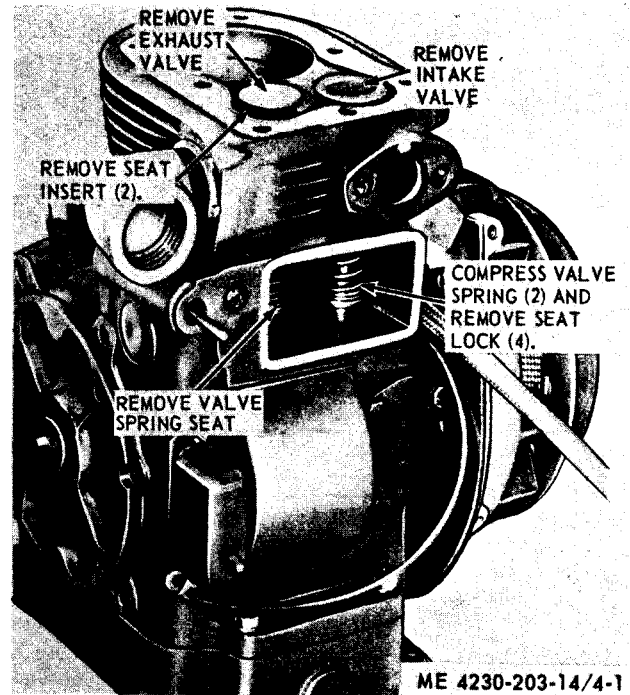

Figure 5-1. Intake and exhaust valves removal and installation.
- (1) Remove the cylinder head (para 4-19).
- (2) Remove the valve inspection cover (para 4-16).
- (3) Refer to figure 5-1 and remove the intake and exhaust valves.
- (1) Refer to figure 5-1 and install the intake and exhaust valves.